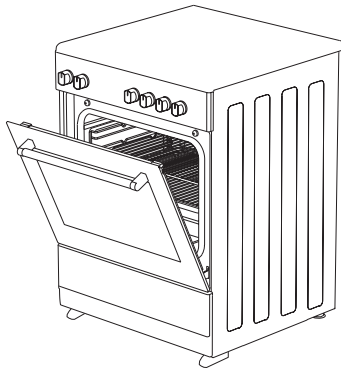

Figure 7
3. Place the safety panel under control panel by opening the oven front cover glass. (figure 7)